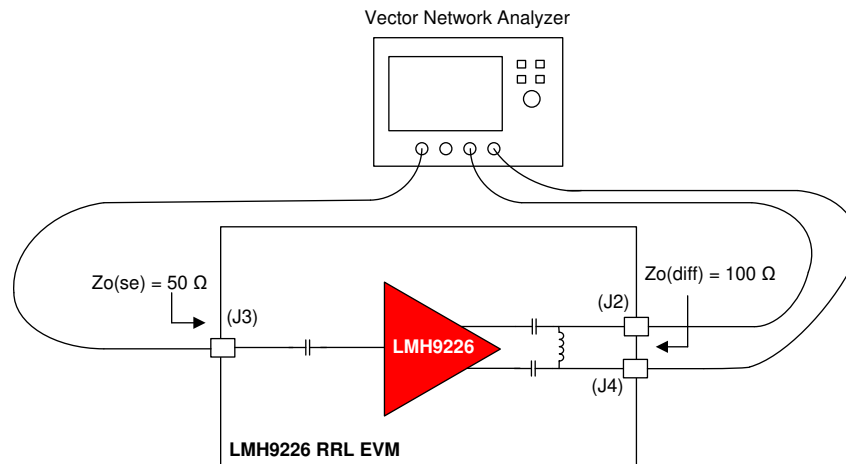

Figure 8. S-Parameter Test Setup
1. S-parameter measurement is typically done using a Vector Network Analyzer (VNA), as Figure 8 shows. For measuring the LMH9226 EVM, a 4-port VNA is recommended which can generate and receive truly differential signals at the input and output ports.